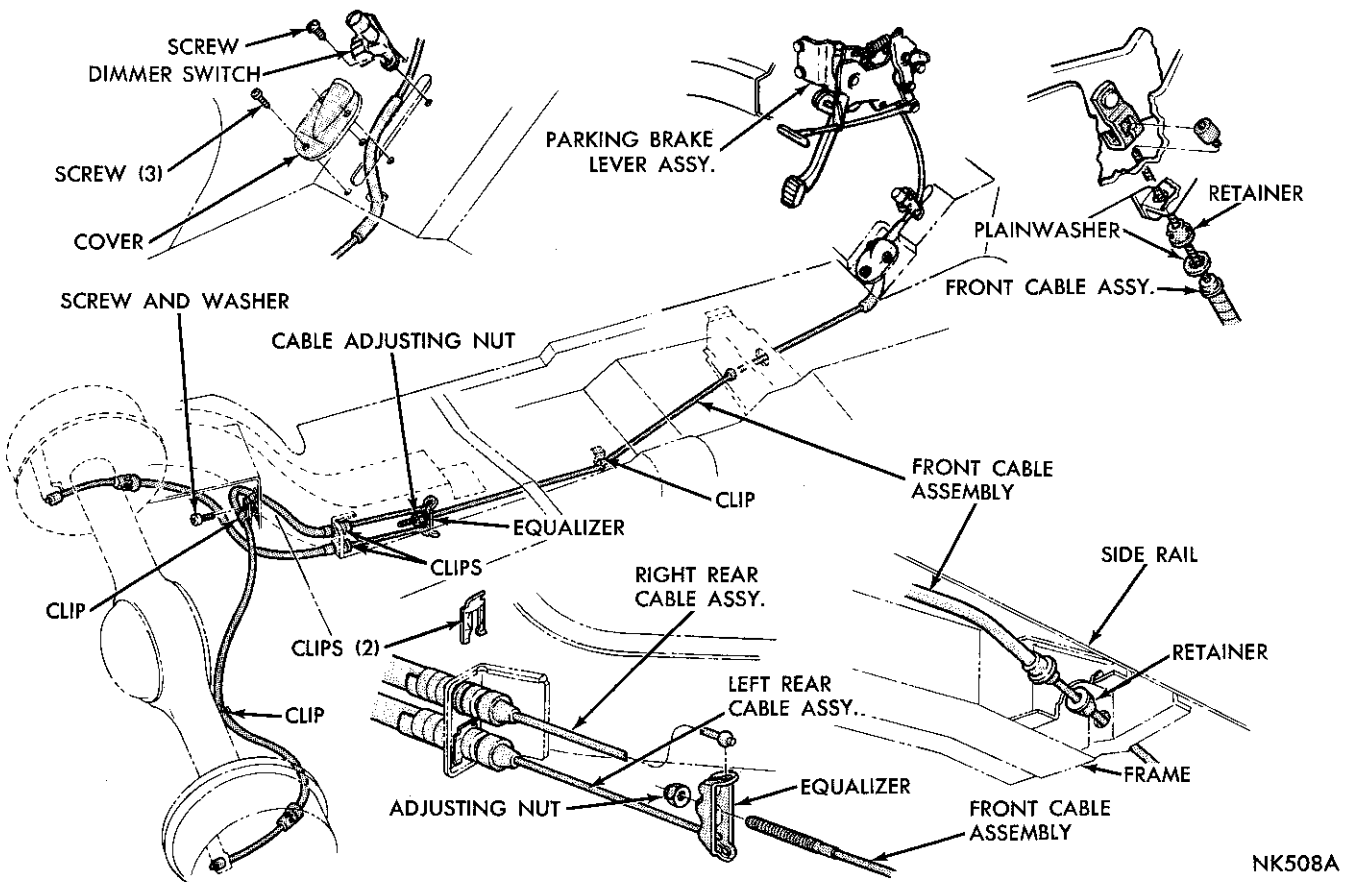

Fig. 1—Parking Brake Cable Routing
(1) Release parking brake lever and loosen cable adjusting nut to insure cable is slack, (Fig. 1). Before loosening cable adjusting nut, clean threads with wire brush and lubricate with grease.
(2) Tighten cable adjusting nut until a slight drag is felt while rotating wheel, loosen cable adjusting nut until both rear wheels can be rotated freely, then back off cable adjusting nut two full turns.
(3) Apply parking brake several times, then release and test to see that rear wheels rotate freely without dragging.
The independent rear brake cables are attached to an equalizer (Fig. 1). The front cable is adjusted at equalizer.